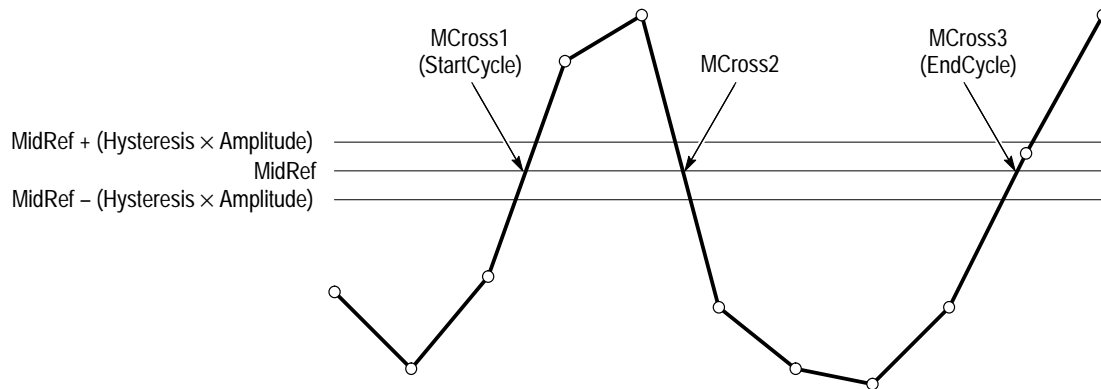

Figure B-1: MCross Calculations
**MCross1, MCross2, and MCross3** refer to the first, second, and third *MidRef* cross times, respectively. See Figure B-1.